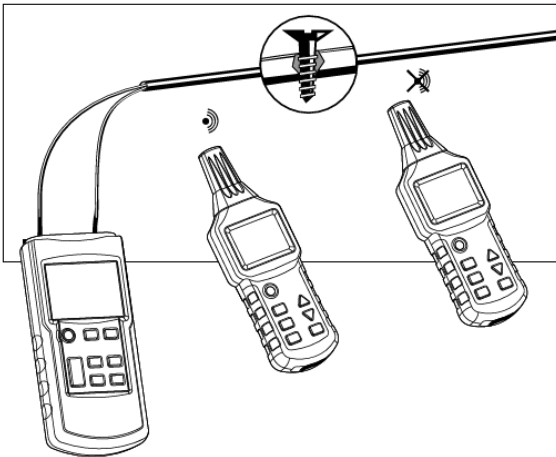

Fig. 3-2-3
- Connect the transmitter per Fig. 3-2-3.